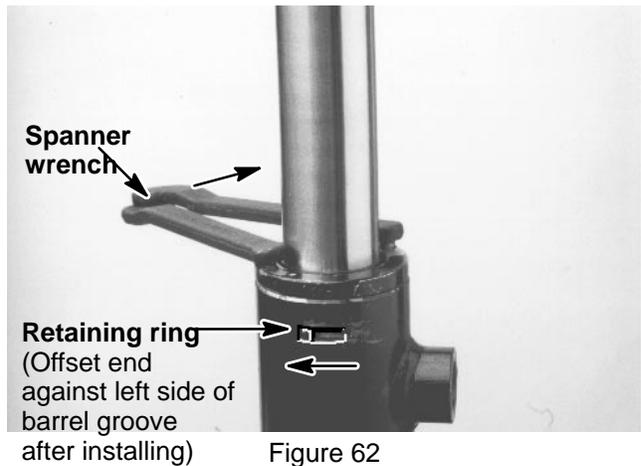

Figure 62
1. Coat all O-rings, uni-ring, and backup washer lightly with hydraulic oil. Install new O-ring (7) and uni-ring (9) to the piston (8). Install O-rings (2 and 5) and backup washer (4) to the head (3).
**IMPORTANT: Do not clamp vise jaws against shaft (6) surface. Protect shaft surface before mounting in the vise.**
2. Mount shaft (6) securely in a vise by clamping vise on the ends of the shaft. Slide head (3) onto the shaft. Install piston (8) and locknut (10) onto the shaft and tighten lock nut (10).
3. Remove shaft (6) from the vise.
**IMPORTANT: Prevent damage when clamping the barrel (11) into a vise; clamp on the pivot end only. Do not close vise enough to distort barrel.**
4. Mount barrel (11) in a vise so that the shaft end tilts up slightly.
5. Coat all internal lift cylinder parts with a light coat of hydraulic oil. Slide piston (8), shaft (6), and head (3) assembly into barrel (11) being careful not to damage the seals.
6. Secure head (3) in barrel (11) by installing retaining ring (1). Align key slot in head with the access groove in the barrel. Rotate head clockwise as far as the retaining ring will allow. The offset end of the retaining ring will be against the left side of the barrel groove as shown in Figure 62.